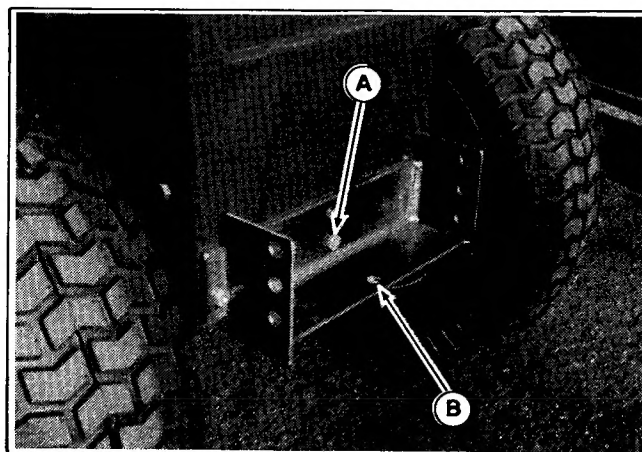

Figure 5.
3. Drawbar hole is item B, figure 5.